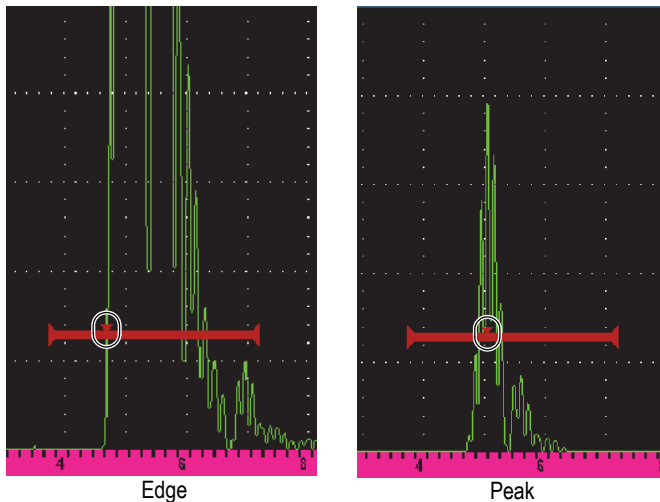

Figure 3-10 Trigger in Edge and Peak modes
- **Edge:** Acquires measurement readings based on the position of the first crossing point of a gated signal (see Figure 3-10 on page 72).
- **Peak:** Acquires measurement readings based on the highest peak within the gated region (does not have to cross the gate threshold). See Figure 3-10 on page 72.